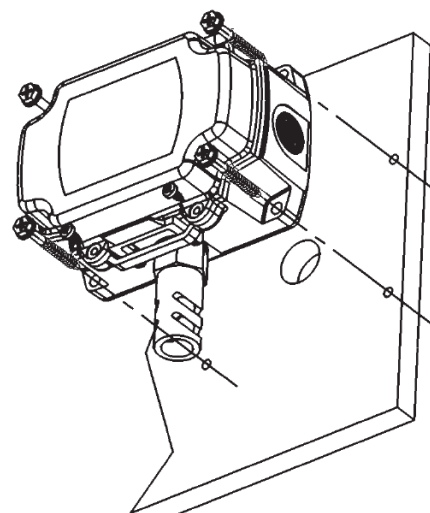

Figure 3: BBox Enclosure - Mounting
1. Drill the mounting holes and mount as shown in the figs 3 and 4.